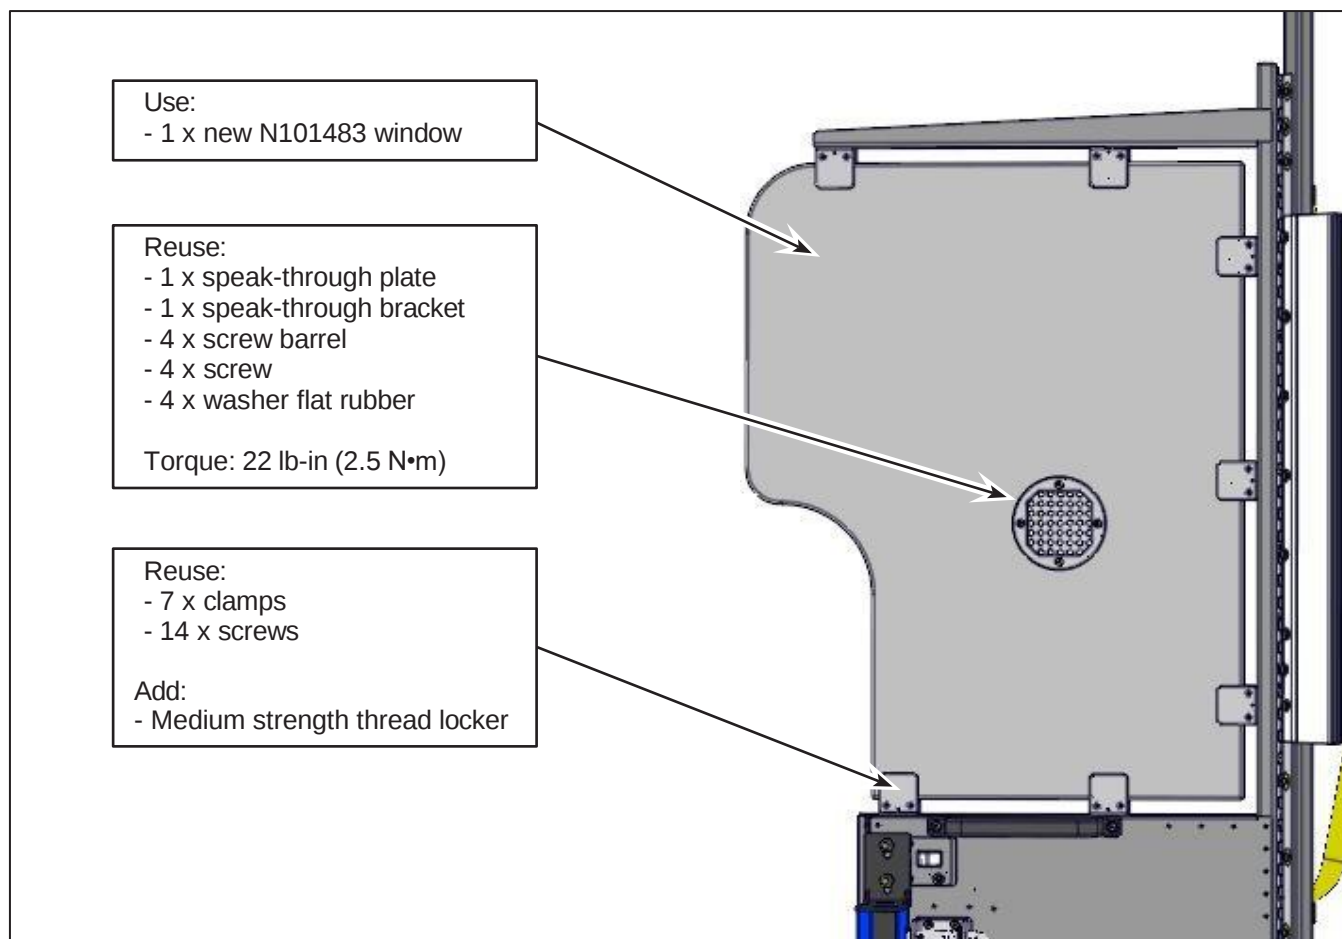

Figure 1 - Driver's Door Window Replacement
- 1.3. Remove the existing speak-through from the driver's door window (Figure 1). Note its orientation and keep all parts.